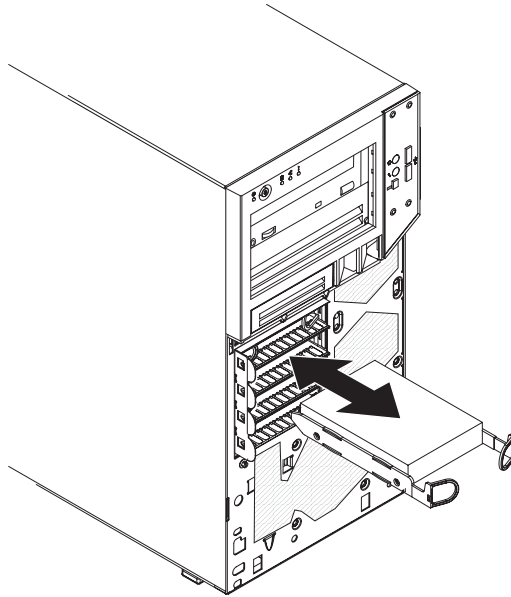

Figure 30. Installing a simple-swap hard disk drive
2. Align the drive assembly with the guide rails in the bay (the connector end of the drive goes in first). See Figure 30.